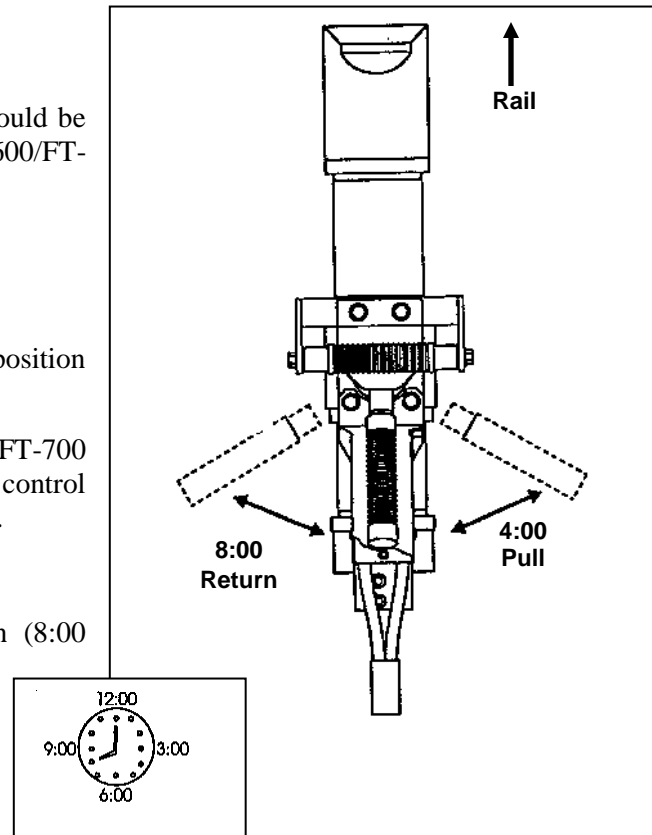

Figure 3.1-1
4. Place puller control valve in neutral, center position (6:00 Figure 3.1-1).
7. Move puller control valve to return position (8:00 Figure 3.1-1).
8. When puller jaw has fully returned (forward position), place control valve in neutral position (6:00 Figure 3.1-1).